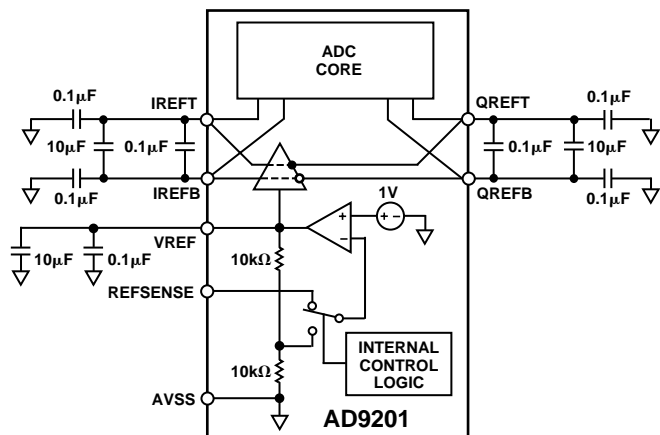

Figure 26. Reference Buffer Equivalent Circuit and External Decoupling Recommendation
The reference and buffer circuitry on the AD9201 is configured for maximum convenience and flexibility. An illustration of the equivalent reference circuit is shown in Figure 26. The user can select from five different reference modes through appropriate pin-strapping (see Table I below). These pin strapping options cause the internal circuitry to reconfigure itself for the appropriate operating mode.
**Reference Buffer**—The reference buffer structure takes the voltage on the VREF pin and level-shifts and buffers it for use by various subblocks within the two A/D converters. The two converters share the same reference buffer amplifier to maintain the best possible gain match between the two converters. In the interests of minimizing high frequency crosstalk, the buffered references for the two converters are separately decoupled on the IREFB, IREFT, QREFB and QREFT pins, as illustrated in Figure 26.
For best results in both noise suppression and robustness against crosstalk, the 4 capacitor buffer decoupling arrangement shown in Figure 26 is recommended. This decoupling should feature chip capacitors located close to the converter IC. The capacitors are connected to either IREFB/QREFB or QREFB/QREFB. A connection to both sides is not required.